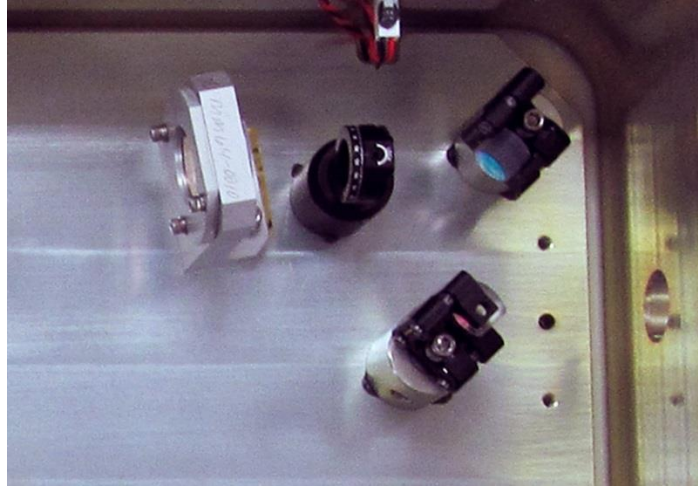

Figure 2-31: Steering Mirror Layout
9. Place optic into mount and bond at the locations as shown in **Figure 2-31** below. Use #8-32 screw and .002 shims (red) to secure and center optic. Be sure that the assembly remains flat until the 2216 is cured.
12. Orient steering mirrors according to **Figure 2-31**.